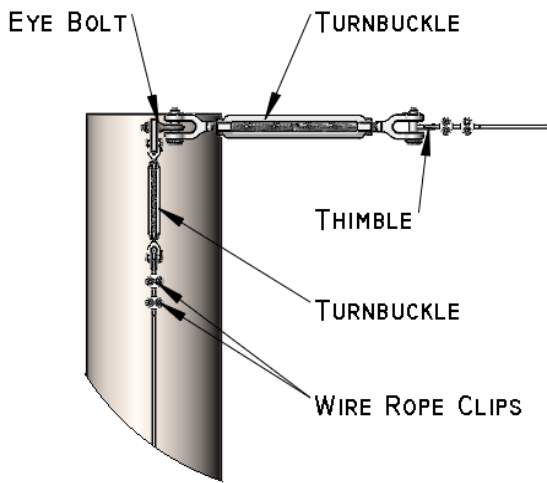
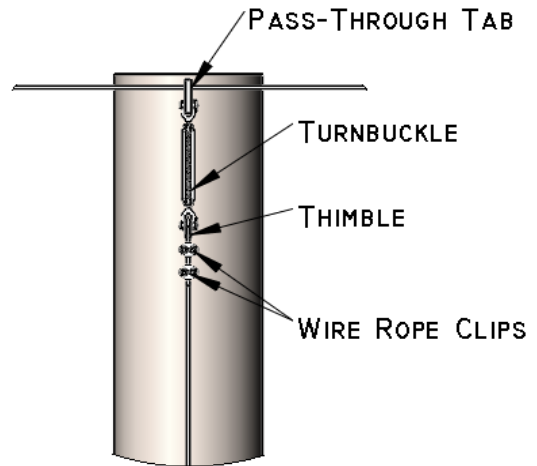

Figure 1
Figure 2
- b) Start the horizontal tensioned cables (5/16" DIA) by assembling a 5/8" x 12" turnbuckle to an eye bolt at one end (Figure 1). The wire will pass through the poles at which the cable run does not terminate (Figure 2). At the poles where the cable run terminates, attach the cable with turn back and rope clips directly to the eye bolt at opposite end (Figure 3).